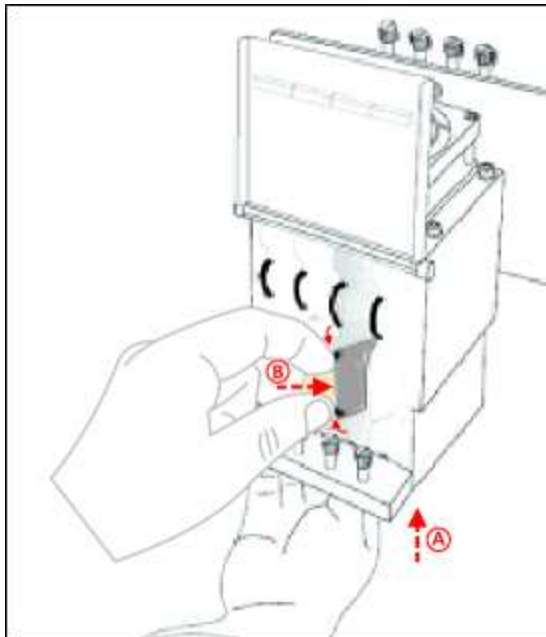

Figure 6-77 Inserting the print-head driver card into its socket
- b. Re-insert the print-head driver card into its socket (see Figure 6-77 on page 6-56).